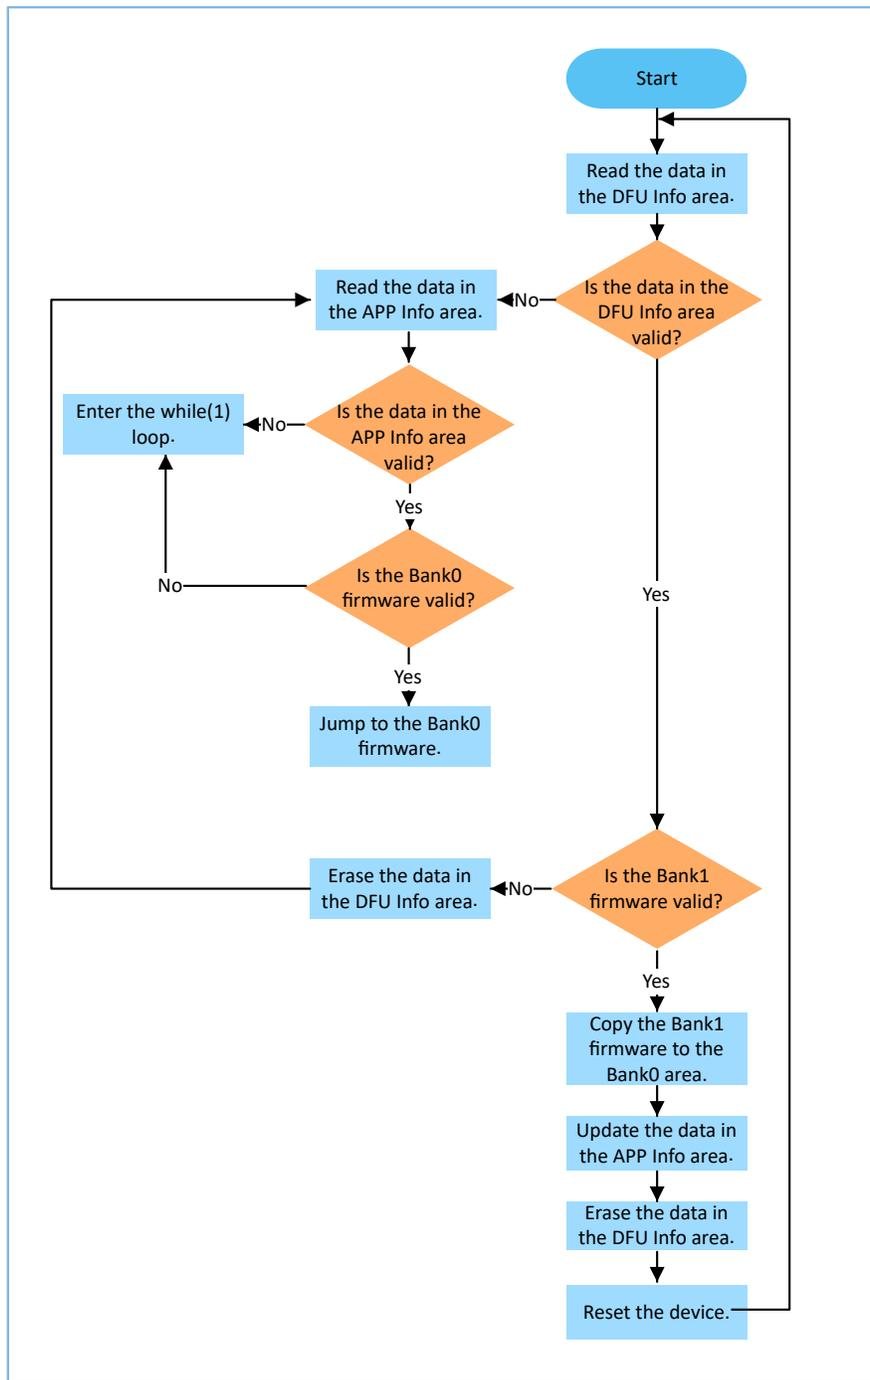

Figure 2-3 App bootloader boot procedure
5. After the device is reset, run the App bootloader firmware according to the boot procedure in Figure 2-3.